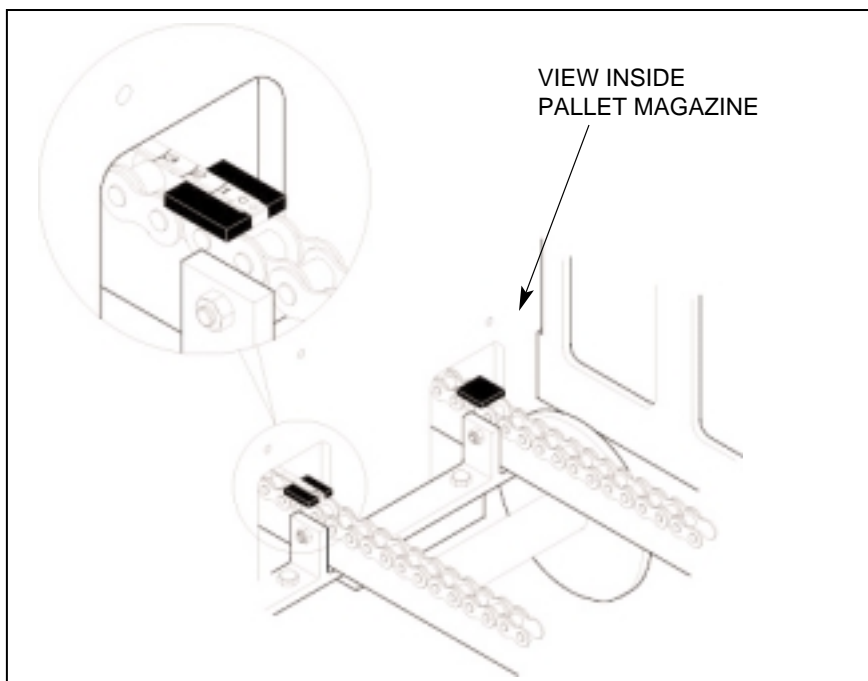

Figure 6.6 ADJUSTMENT OF CHAIN LUGS
6.2.1 Operate machine until front edge of any chain lug is 3-3/4 inches from back edge of magazine rear plate (see figure 6.6).
- 6.2.5 Re-check chain lugs for 3-3/4 inches dimension (see figure 6.6). If lugs have moved pry chain at magazine rear plate to move lug back to 3-3/4 inches dimension.
pallets through machine. If pallets are raised under mold too far forward or too far back, steps 1 through 13 must be repeated, changing the 3-3/4 inches dimension (see figure 6.6) according to the amount that pallet must be shifted to be correctly placed under the mold.
- 6.2.14 Record final dimension (see figure 6.6).